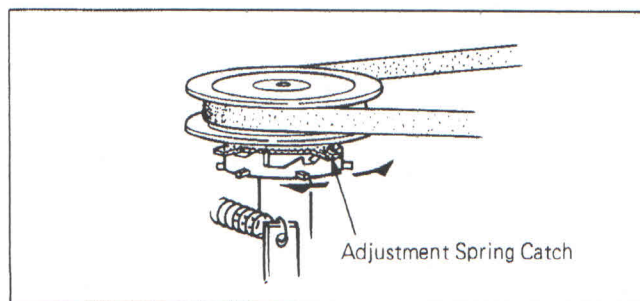

Fig. 3-5
3. If the reading is out of the specified values, adjust the torque adjustment spring catch provided under the deck chassis (refer to *Fig. 3-5*). Move the spring catch in the arrow direction until the specified torque is obtained, using a small driver or pincette.